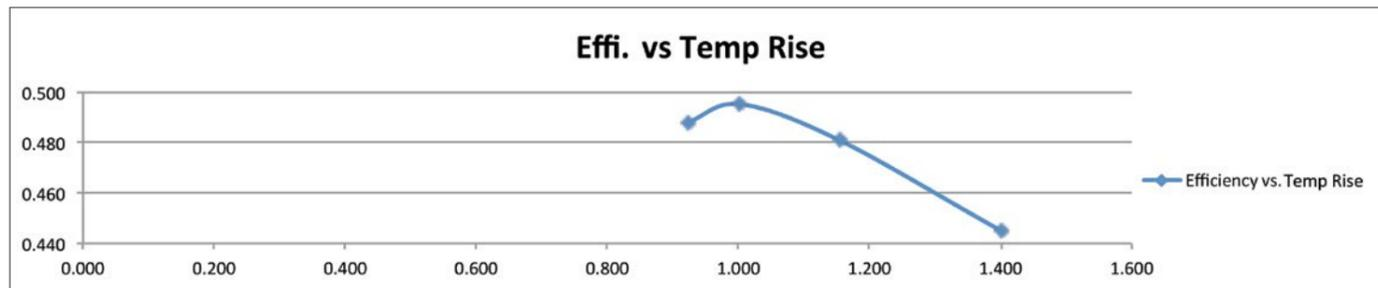

Figure 2: Temperature rise as a result of drop in pump efficiency
- Pump efficiency decreases, which also affects the heat generated (losses) within the pump (Figure 2)